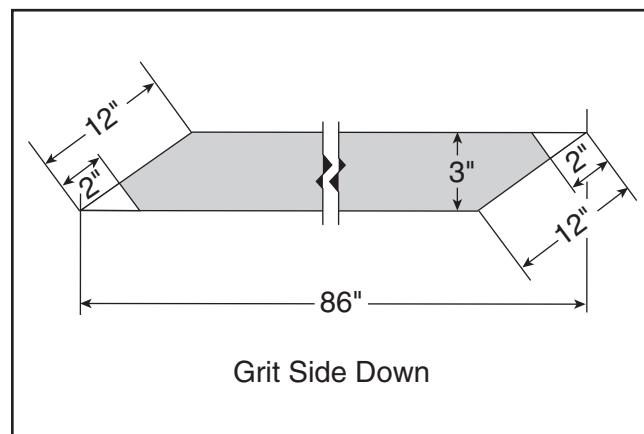

Figure 18. Sandpaper pattern for drum.
Note: Take care not to rip or tear the old sandpaper, so you can use it as a template when cutting out the replacement sandpaper strip. This is easier than using the drawing shown in **Figure 18**.
6. Use old sandpaper strip as a pattern, if at all possible. Otherwise, use pattern in **Figure 18**, to cut a new piece of sandpaper to the necessary shape. After cutting the 12" angled sides, measure 2" along same sides and cut off ends with a knife.
- If the sandpaper *does not* fit into the right clamp, you may have inserted sandpaper too deeply into left clamp. Also, check to make sure the length, width, and angled cuts match the pattern in **Figure 18**. Make adjustments to sandpaper if necessary.